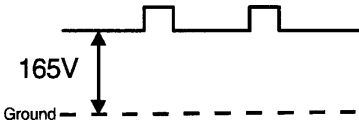

Fig. 2.7B
- 6. Adjust the SCREEN control on the flyback transformer (T552) so that the waveform is as shown in fig 2.7B: